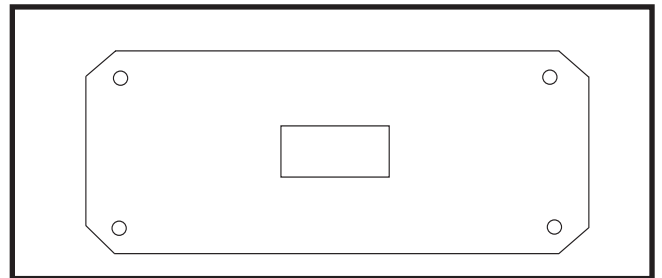

Figure 7.7 Restrictor with Small Cut-Out
3. Replace existing restrictor with small cut-out restrictor in manual bag for installations with more than 2 meters of vertical piping. See Figure 7.7.